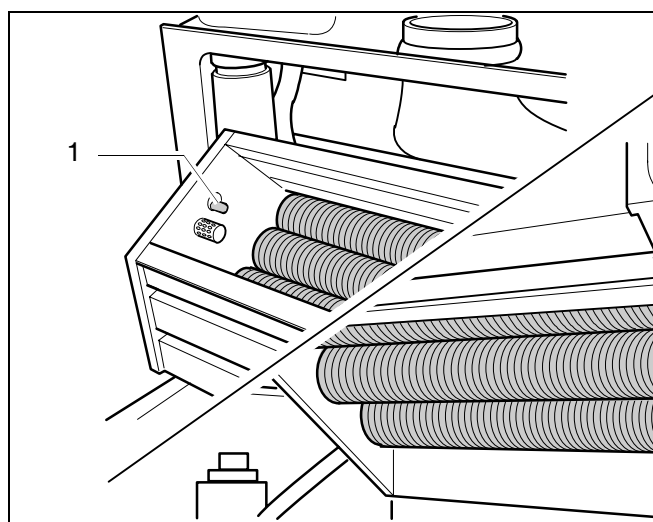

fig. 50 Cleaning the heat exchanger
The hot surface ignitor (fig. 50, item 1) is made of **fragile material**.